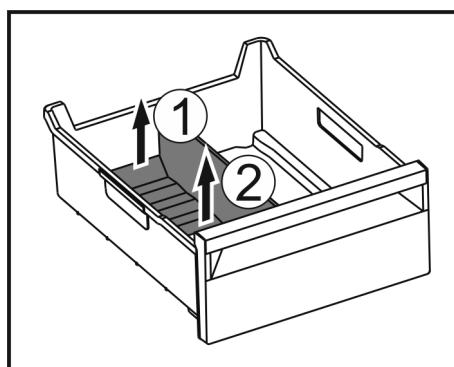

Fig. 56
- Lift the rear part of the ice compartment divider. Fig. 56 (1)
- Remove the ice compartment divider upwards. Fig. 56 (2)